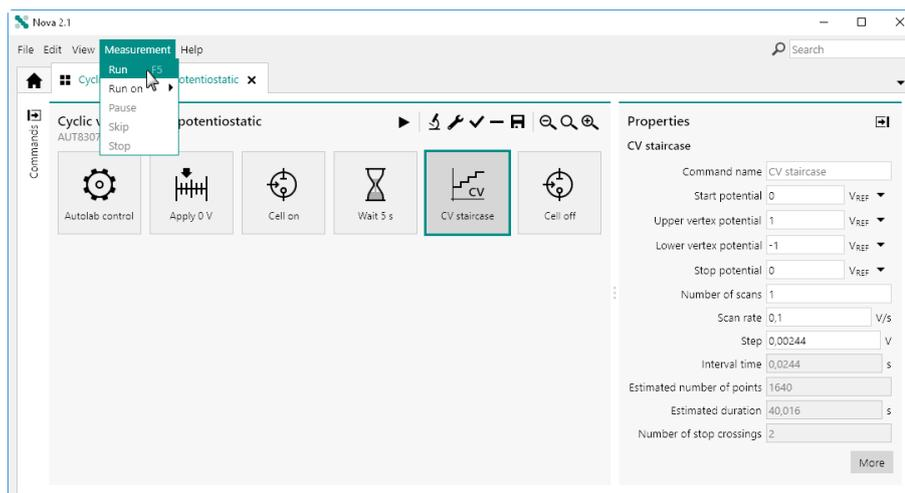

Figure 828 Starting a procedure from the Measurement menu
- Select the **Run** option from the **Measurement** menu (see Figure 828, page 678).